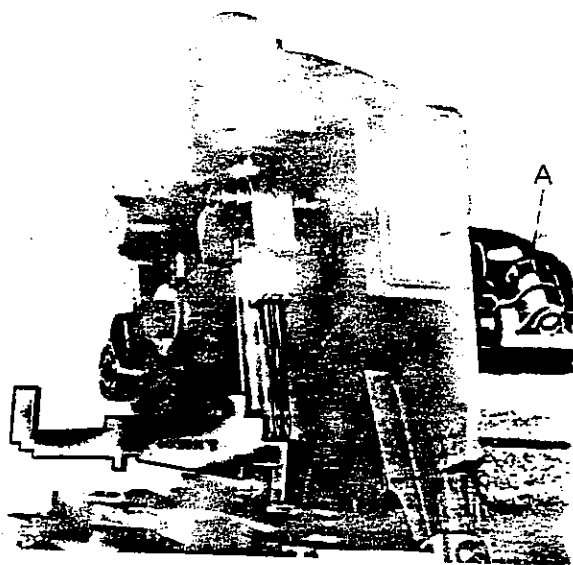

fig. 3
3. Setting of needle (fig. 3).
- if adjustment is necessary, loosen screw A (fig. 3) and move needle bar clamp up or down, using needle gauge S.1686.00 as indicated in fig. 3 to obtain the correct setting. Retighten screw A.